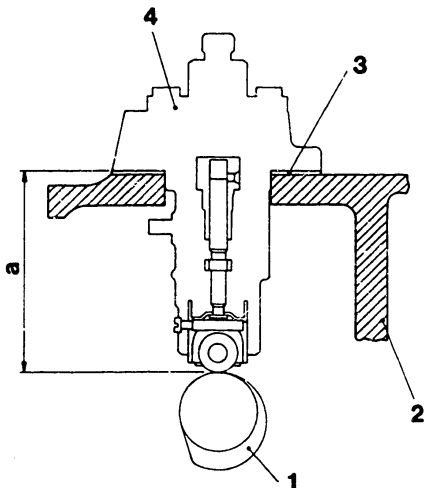

Fig. 71
1. Rotate the engine's injection pump drive camshaft to position the NO.1 cylinder in the bottom dead center position. (Figure 71)
2. Measure the distance (L) between the cam face and the surface of the cylinder body where the injection pump is installed. Adjust this distance using shims (supplied by the engine manufacturer) until it is as specified the following: